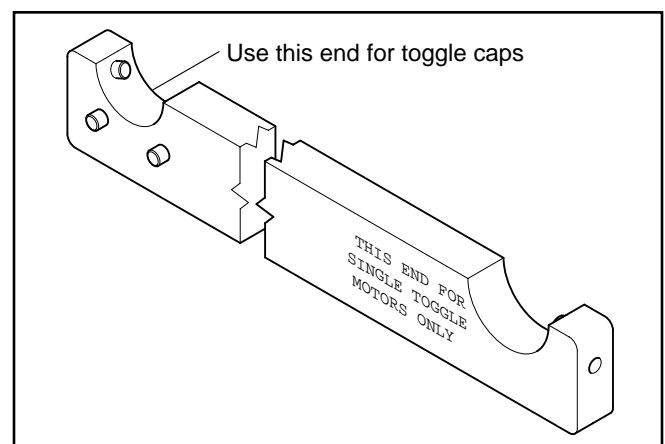

Figure 4 Spanner Wrench 398500-2 (Special Tool)
1. Unscrew Toggle Caps (28 or 42) from Body (19).
- Use special tool 398500-2. See **Figure 4**.
2. Remove Springs (30) from each Toggle Cap.
3. Remove O-Rings (29) from each Toggle Cap.